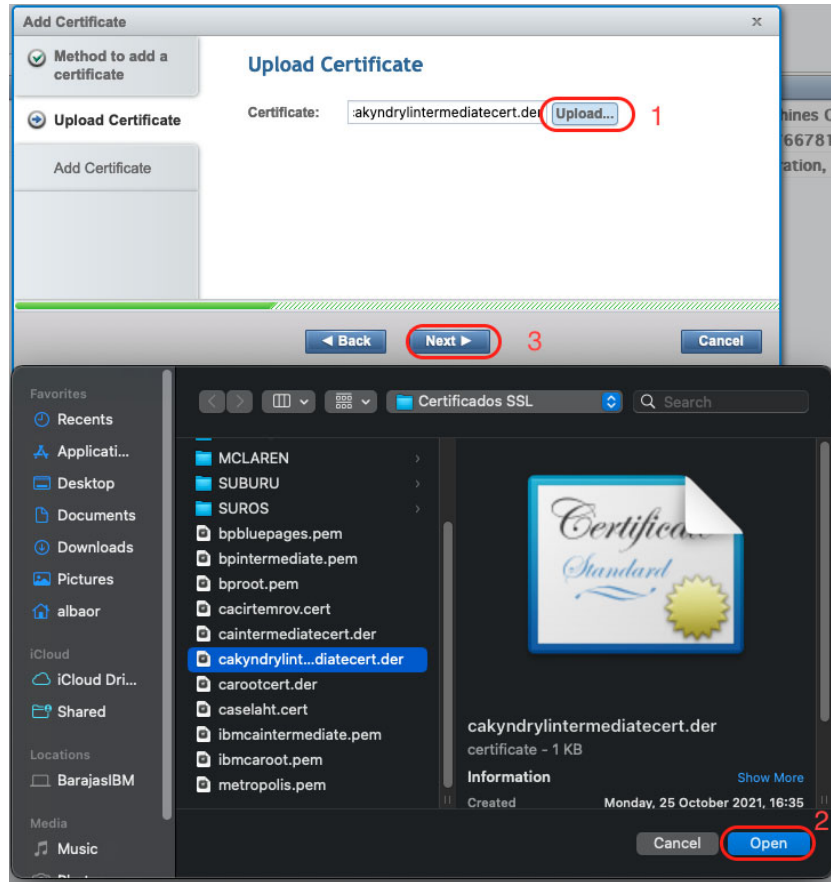

Figure J-6 Selection of SSL certificate file for manual upload
3. Click **Upload** to open a file manager to select the certificate file to be uploaded from your local workstation (the file manager tool that is used depends on your local operating system), as shown in Figure J-6 on page 1025. This file can be a copy of the EKM-PCert or one or more public certificates from the CA chain of trust. Click **Next** when you are ready to upload the certificate file.